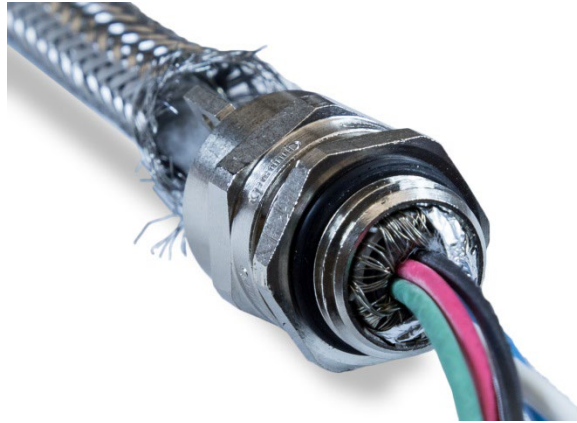

Figure A-45: Inner Armor and Foil Pressed into Body of Cable Gland
19. Press the plastic grommet into the body of the gland, then screw the outer part over it, tightening with an adjustable wrench. The end of the cable, with the wires and foil pressed into the gland should appear as shown in Figure A-45; here, the cable and gland assembly is shown removed from the terminal for clarity.